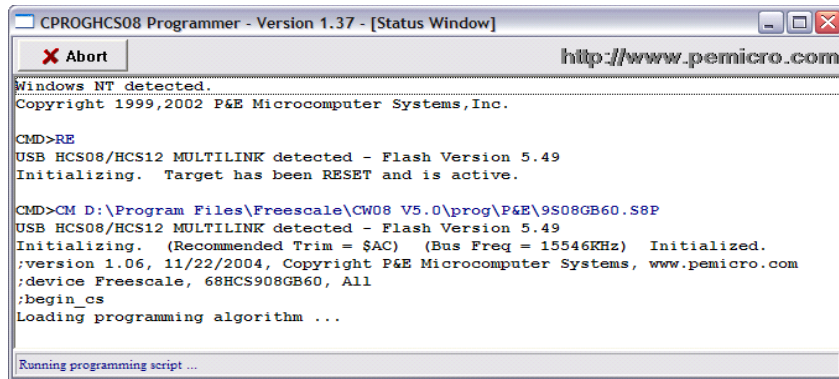

Figure 53. Status Window
8. The Status window appears as shown in Figure 53. This window shows the download progress if the connection is working properly.